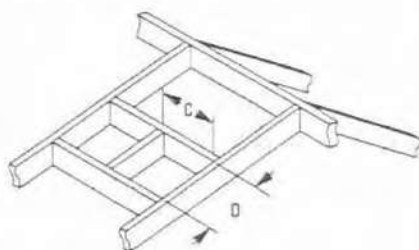

Figure 20
E. At transition from or to a horizontal/inclined run, the _DST5-90ELB/_DST5-45ELB/_DVSP5-90ELB elbows install in the same manner as the straight vent sections. Apply Mill-Pac Black (700°F) high temperature sealant to the inner joints. Slip the inner elbow over the straight inner vent section. Secure with two (2) screws. Slide the outer elbow over the inner elbow. Slip down over the outer vent section. Secure with two (2) screws.
H. Identify location for vent at the roof. Cut and/or frame opening per Roof Framing Chart and Figure 20.